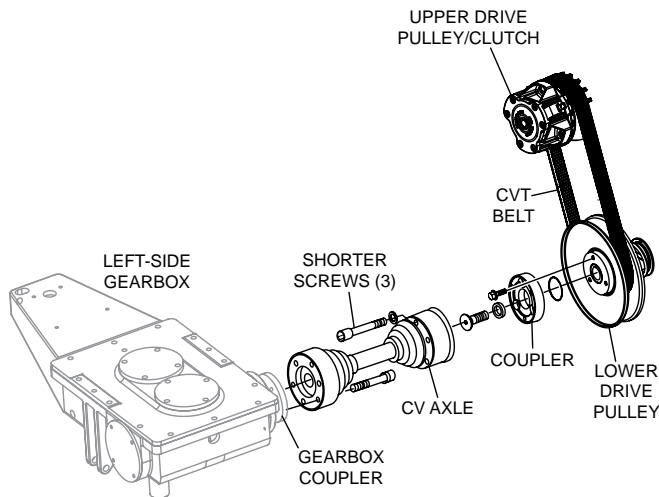

Figure 26. Remove Left-Side CV Axle
12. Disconnect the left-side CV Axle from the left-side gearbox and the lower drive pulley coupler. See Figure 26.